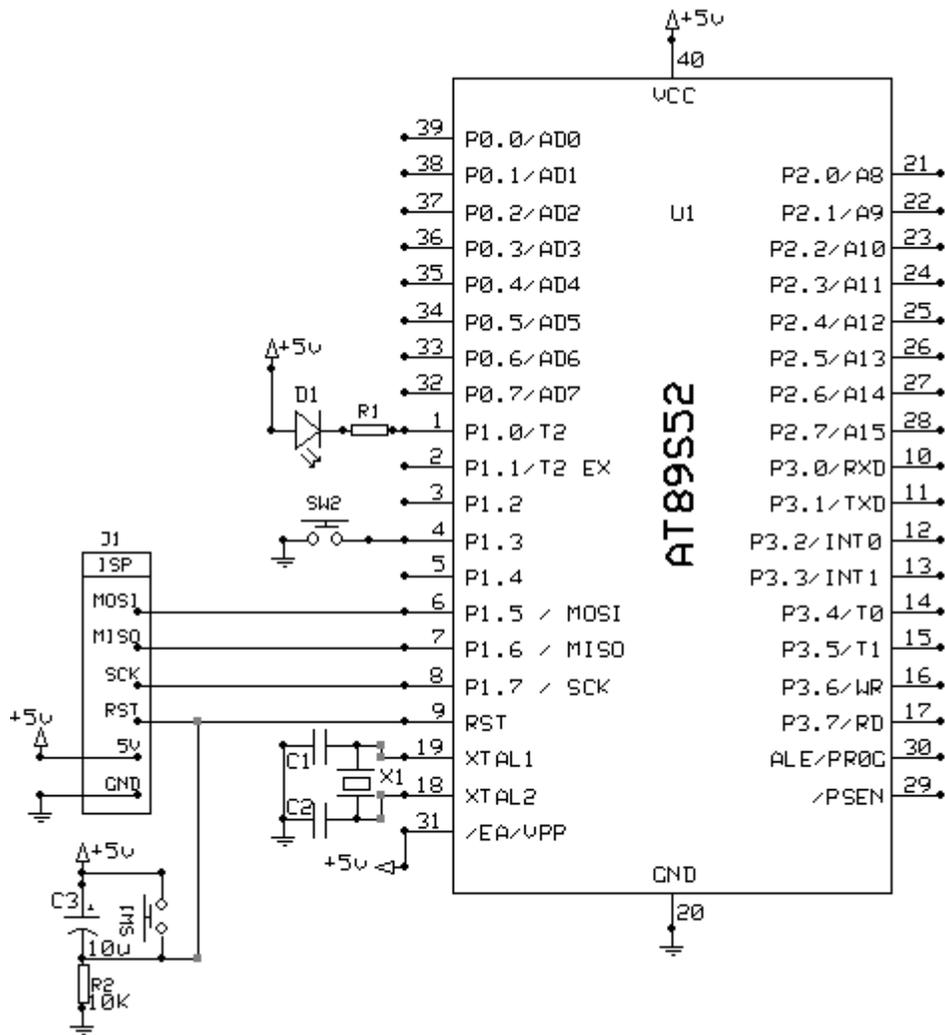

figure 3.3
The most simple input operation you can implement to the previous project is a push button, to control the LED. The schematic below (figure 3.3) shows how a switch is added on another pin of Port 1. We could have connected the switch on another port, but i preferred to stress on capability of the 8051 architecture to share input and output pins on the same port. Notice how the switch is connected to ground, and without a pull up resistor. recalling the internal structure of a pin, you'll notice that this is the simplest way to connect a switch, and also the most adapted to the 8051 architecture, making use of the internal pull up resistor, and preventing any eventual short circuits if the port is not well configured.
*“Using the same schematic (**figure 3.3**), build a software that would allow you to toggle the state of a led on simple button press. A press on the button to turn the LED ON or OFF, depending on its initial state“*